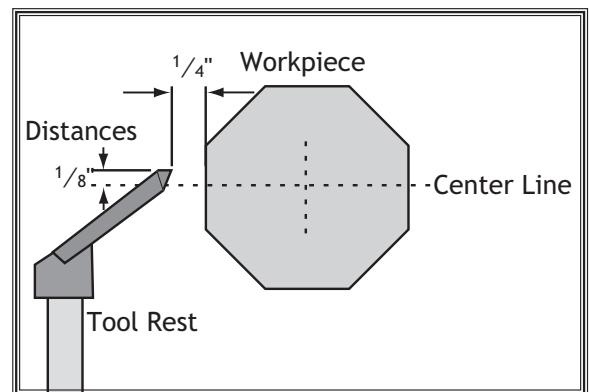

Figure 20. Tool rest position relative to workpiece.
2. Position tool rest approximately  $\frac{1}{4}$ " away from workpiece and approximately  $\frac{1}{8}$ " above workpiece center line, as shown in Figure 20.